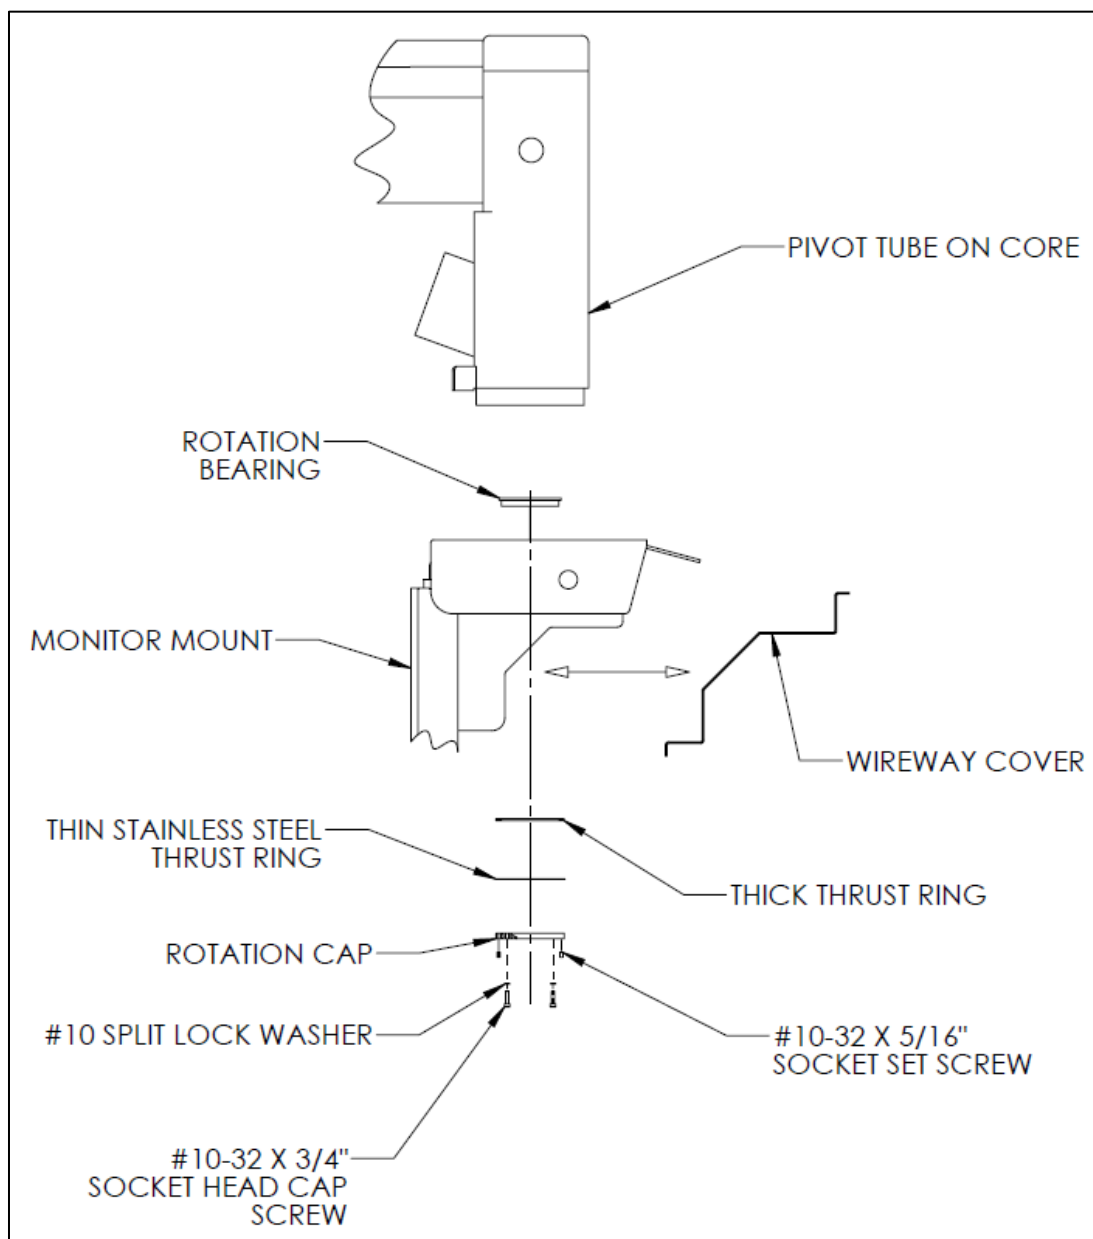

Figure 7
NOTE TO INSTALLER: It is important that the load be balanced on the monitor mount. Take into account any differences in size and weight of the monitors. Refer to Figure 7 for steps 1-6.
1. The setscrews shown in Figure 7 that were installed in step 6 of "INSTALL MONITOR MOUNT" on page 12 can be loosened or tightened to adjust the rotation resistance of the suspended monitor mount assembly.